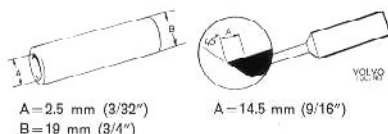
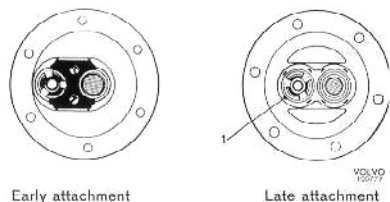

Fig. 100. Tools for fitting valves in fuel pump
Fig. 101. Fitting valves in fuel pump
- 4a. Replacing valves (earlier attaching arrangement), Fig. 100.
- 4b. Replacing valves (later attaching arrangement), Fig. 101.
Remove the old valves with a screwdriver or other suitable tool. Clean the valve recesses. Place the new seals and valves in position. Press down the new valves into their correct position with the help of a sleeve. A piece of tubing as shown in Fig. 100 can be used. Then peen over the material round each valve in four places with a punch, see Fig. 101. The type of punch is shown in Fig. 100.
2. Fit the new valves and (early production) retainer. On late production, fit the new valves and peen over with a punch as shown in Figs. 100 and 101.